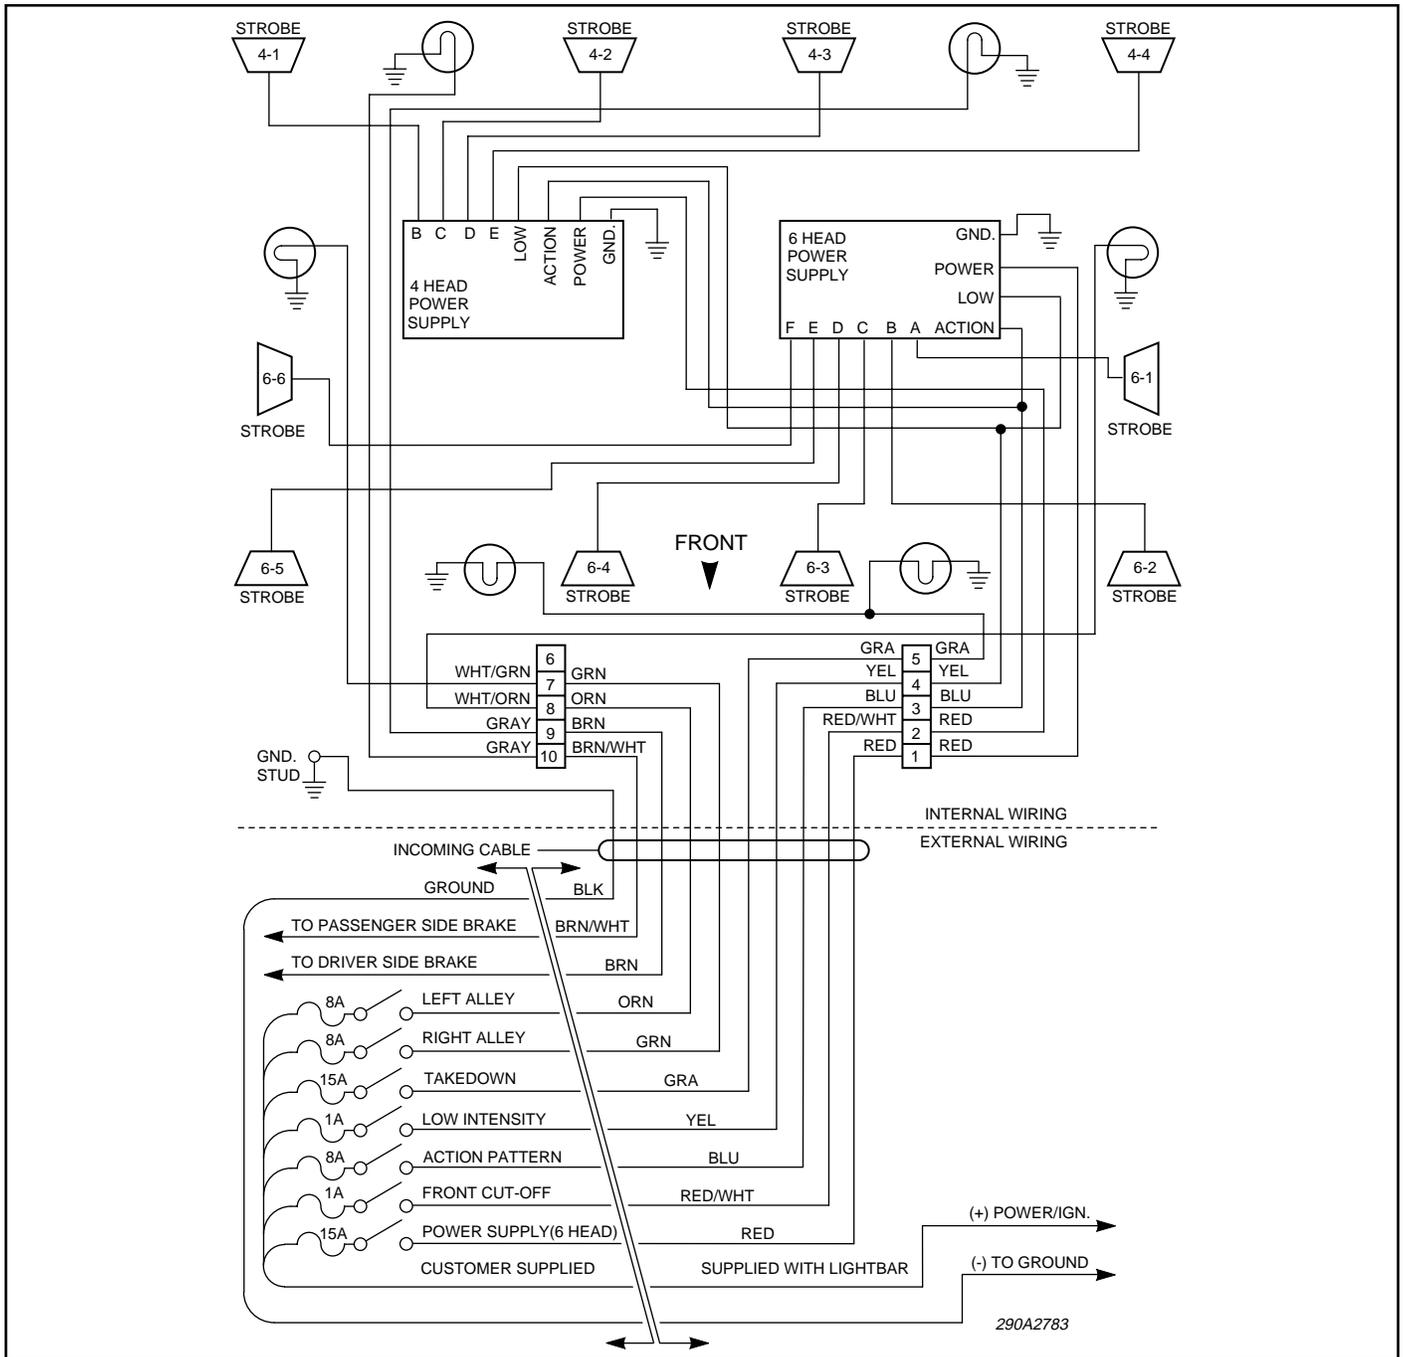

Figure 1. SJL3P-CPD Wiring Diagram.
2. For proper light operation, the control cable must be properly terminated inside the user-supplied control head. Using the wiring diagram (figure 1) as a guide, make the appropriate electrical connections shown in Table 1. Ensure that the lines are adequately fused as shown in the figure.